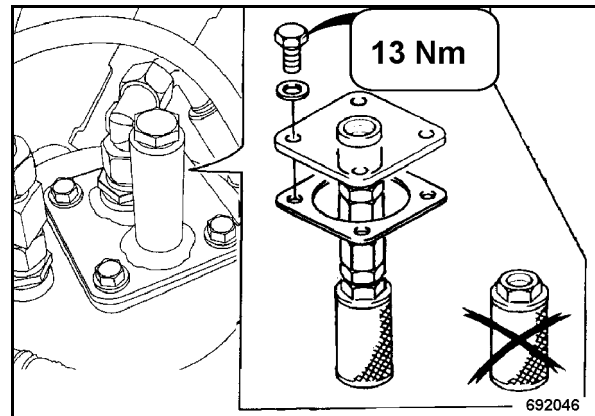

Fig. 77
- Fasten the connecting flange (Fig. 77) with a new gasket to the hydraulic oil tank (tightening torque: 13 Nm (9.6 ft.lbs)).